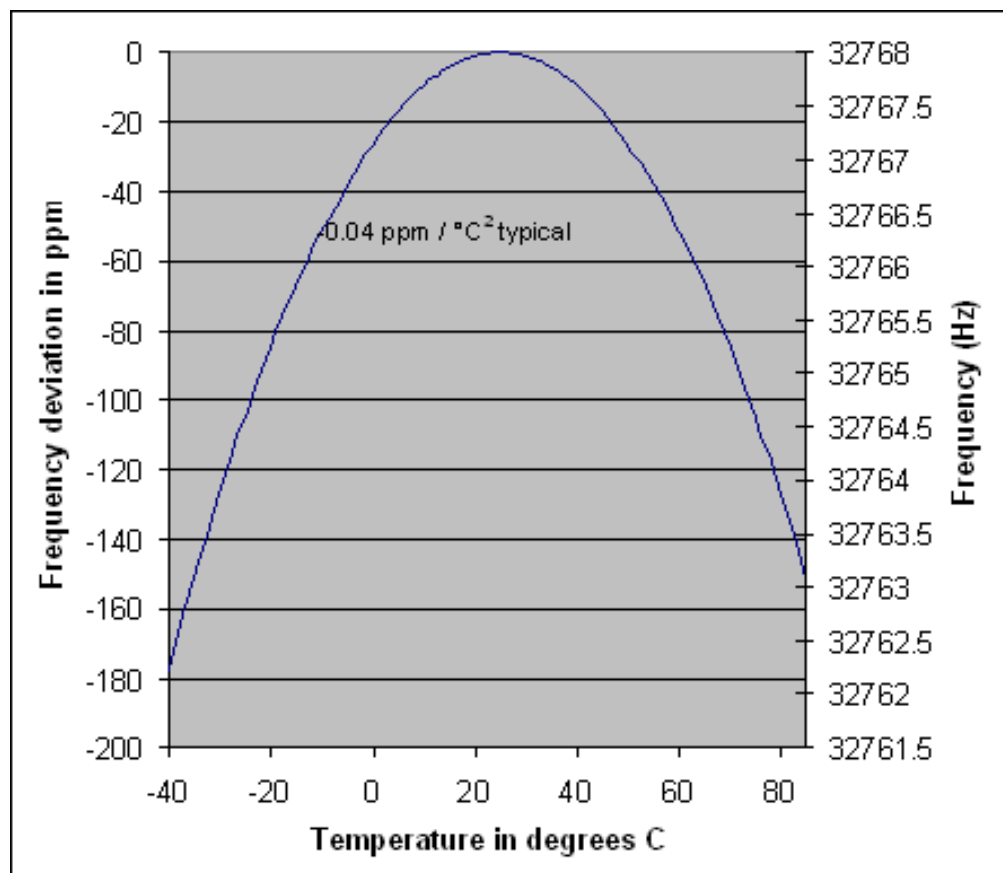

Figure 2. Crystal Frequency vs. Temperature
In addition to the errors from the crystal and the load match, crystals vary from their base frequency as the ambient temperature changes. Dallas RTCs use "tuning fork" crystals, which exhibit an error over temperature, as shown in Figure 2. An error of 20ppm is equivalent to approximately 1 minute per month.
3. If possible, place a guard ring (connected to ground) around the crystal. This helps isolate the crystal from noise coupled from adjacent signals. See Figure 2 for an illustration of using a guard ring around a crystal.